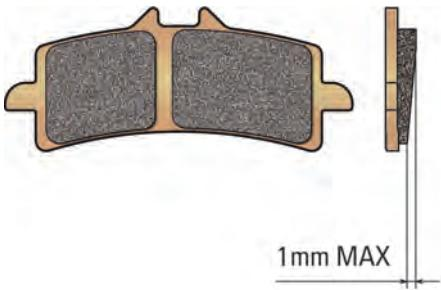

Fig. 6
- b. Pad tangential wear difference must not exceed 1 mm MAX (see fig. 6).